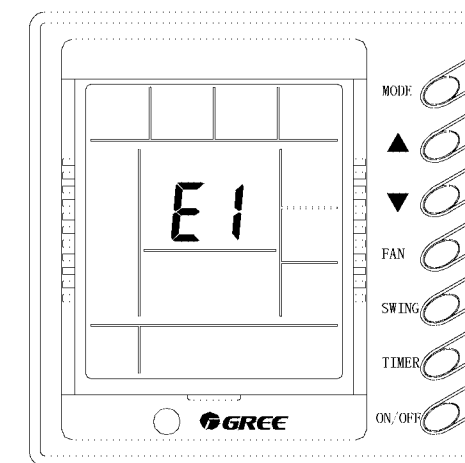

Fig9
8) Malfunction display (Fig. 9)
- ❖ When the malfunction happened during the operation, the environment temperature display area will show the error code. As shown in Fig. 9 it shows the compressor high pressure protection.